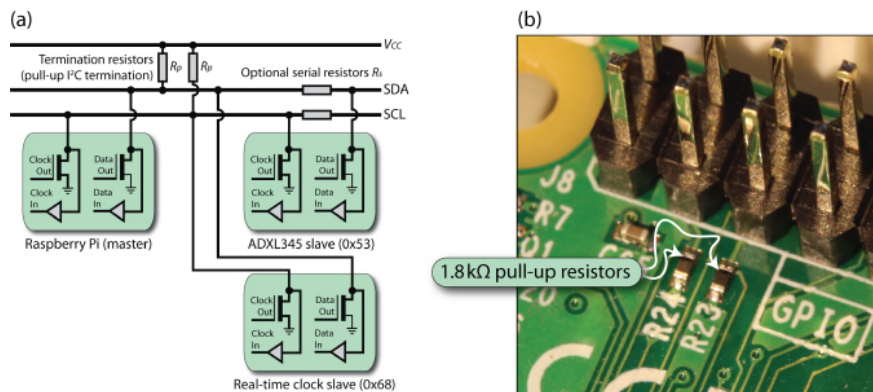

Figure 9.2: The I2C bus configuration, and (b) the built-in pull-up resistors on the I2C1 bus.
4. Note that Raspberry Pi has in-built pull-up registers on board for SDA and SCL lines as shown in Figure 9.2.